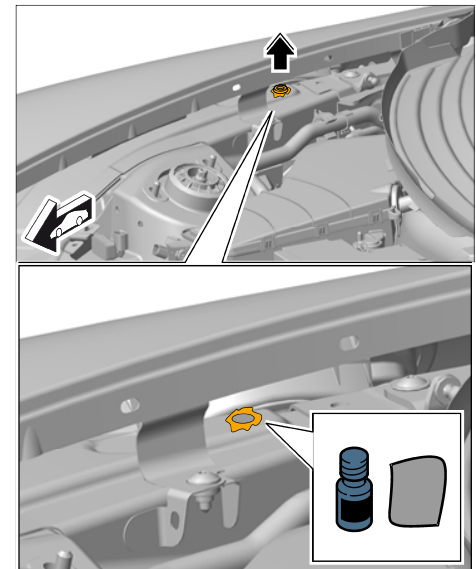

Figure 7
- 10.1 Remove stopper from the opening in the longitudinal member for the wheel housing upper section and dispose of it ⇒ *Figure 7 -arrow-*.